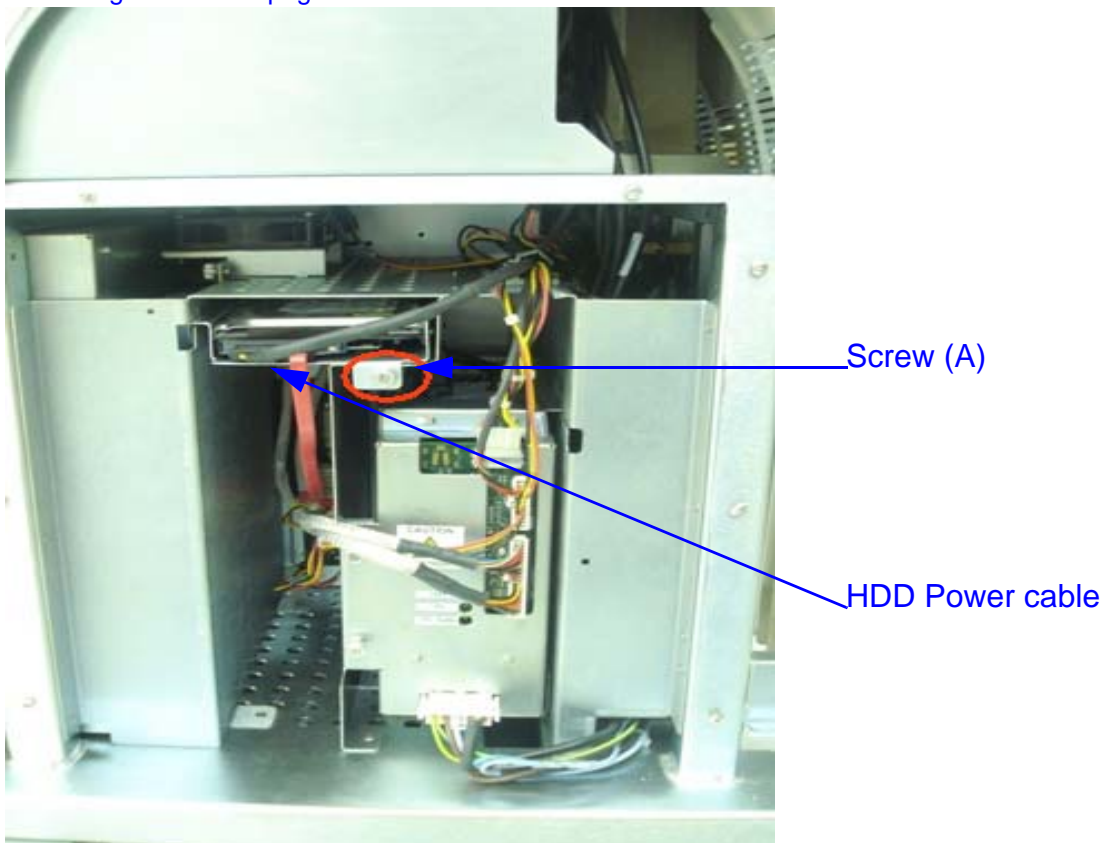

Figure 8-47 Removing Hard Disk Drive Power cable
Figure 8-47 on page 8-45
- 1) Loosen the Two screw (A) and pull out the Cables which are connected to PDB as shown in rectangle box (B) in the Figure 8-47 on page 8-45
- 2) Remove LV & PDB assembly. Refer Figure 8-47 on page 8-45